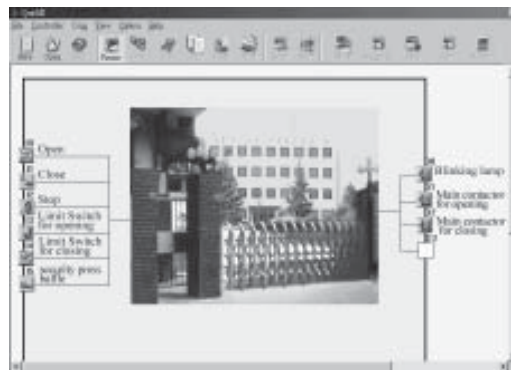

Fig. 4.3. Standard Simulation window
- a. Standard type: DRAW tool or other picture transferring method (e.g. transferring of BMP, TIF or other pictures) can be to plot Field Simulation Graph in this Simulation window, as shown in Fig. 4.3.